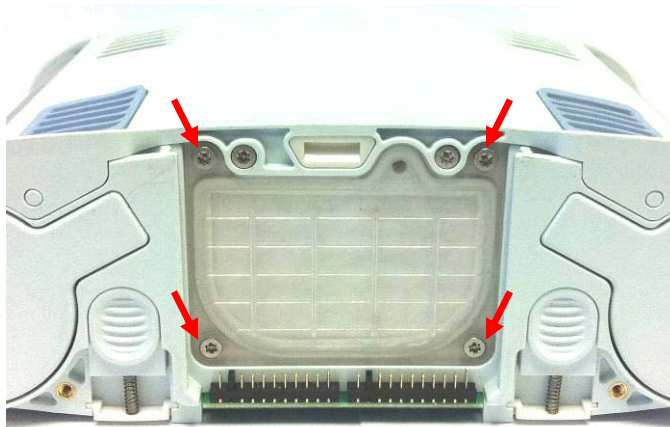

Figure 4: Filter box lid screws
2. Remove the four screws attaching the filter box lid to the filter body (Figure 4) and remove the filter box lid using a flathead screwdriver to separate it from the filter body, if necessary.